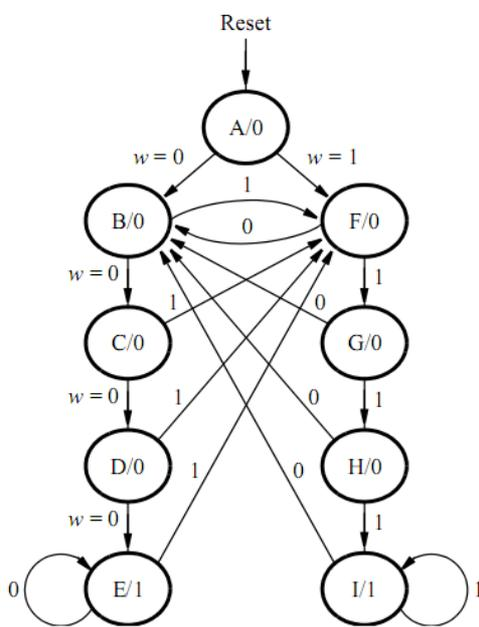

Figure 2. A state diagram for the FSM.
A state diagram for this FSM is shown in Figure 2. For this part you are to manually derive an FSM circuit that implements this state diagram, including the logic expressions that feed each of the state flip-flops. To implement the FSM use nine state flip-flops called y_8, \dots, y_0 and the one-hot state assignment given in Table 1.
For this part you are to write another style of VHDL code for the FSM in Figure 2. In this version of the code you should not manually derive the logic expressions needed for each state flip-flop. Instead, describe the state table for the FSM by using a VHDL CASE statement in a PROCESS block, and use another PROCESS block to instantiate the state flip-flops. You can use a third PROCESS block or simple assignment statements to specify the output z.
5. To examine the circuit produced by Quartus II open the RTL Viewer tool. Double-click on the box shown in the circuit that represents the finite state machine, and determine whether the state diagram that it shows properly corresponds to the one in Figure 2. To see the state codes used for your FSM, open the Compilation Report, select the Analysis and Synthesis section of the report, and click on State Machines.